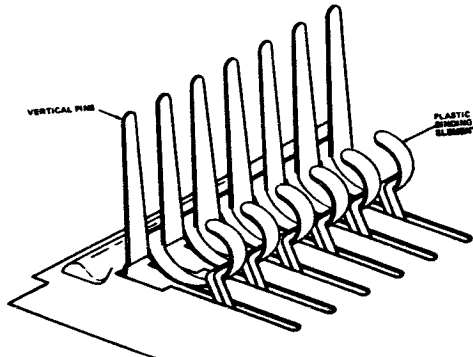

Figure 4.3.1
Place a binding element on the binding head of your Electric Combo with the rings between the vertical pins (See Figure 4.3.1). **ALWAYS** be sure the tips of the plastic rings are on top and pointing away from you. Next depress the foot pedal to open the binding.
3. Pick up the punched book. Holding the book firmly in your left hand with your fingers on the back cover of the book and your thumb on the front cover, place the punched book vertically into the area of the open rings of the binding element. The front cover should **ALWAYS** face toward you. Align holes with the tips of the plastic rings. Swing book down to allow the rings to enter the punched holes of the book. (See Figure 4.3.1).